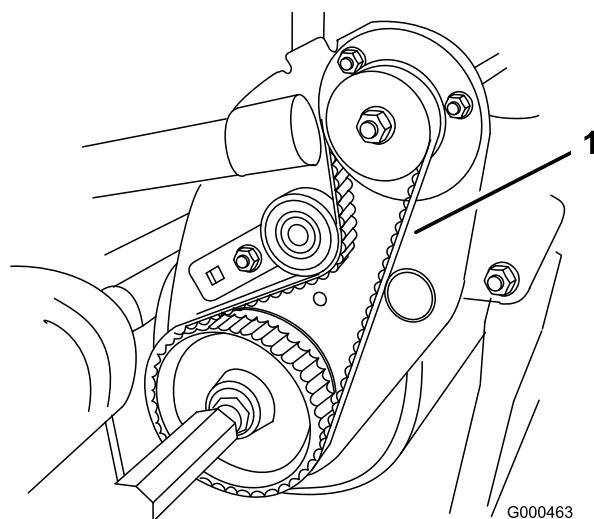

Figure 41
2. Check tension by depressing belt (Figure 41) at mid span of pulleys with 4 ± 1 lb of force. Belt should deflect 1/4 inch (6 mm). If the deflection is incorrect, proceed to next step.